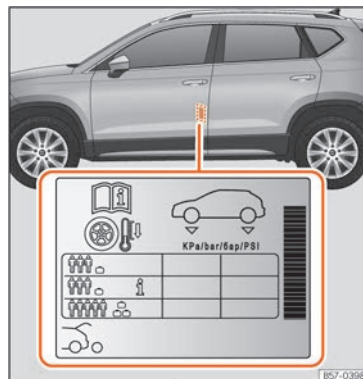

Fig. 219 Location of the tyre pressure sticker.
- Adjust tyre pressure to the load being carried by the vehicle » **Fig. 219**.
The tyre inflation pressures are listed on a sticker on the rear of the front left door frame »» Fig. 219.
Depending on the vehicle, tyre pressure can be adjusted to medium load to improve driving comfort (tyre pressure **i**) »» Fig. 219. When driving with comfort tyre pressure fuel consumption may increase slightly.
The tyre pressure must be adjusted according to the load the vehicle is carrying. If the vehicle is going to carry the maximum load, the tyre pressure should be increased to the maximum value indicated on the sticker »» Fig. 219.
In the case of a minimised temporary spare wheel (**j**), inflate to a pressure of 4.2 bar as indicated on the tyre pressure label »» Fig. 219.
ded tyre pressure is indicated on the label »» Fig. 219.
- When the tyres are cold, tyre pressure should be that indicated on the label »» Fig. 219.